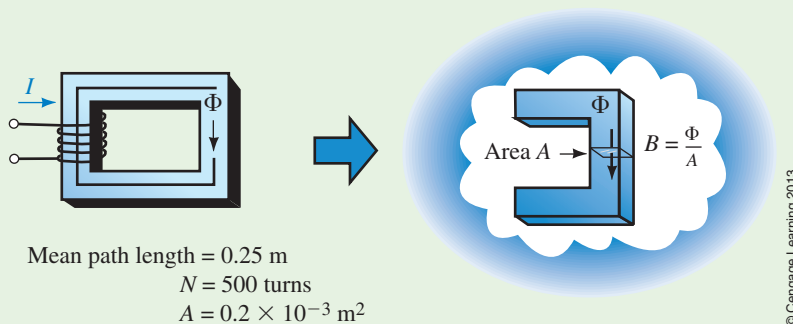

FIGURE 12–24
Magnetic circuit analysis is not as precise as electric circuit analysis because (1) the assumption of uniform flux density breaks down at sharp corners as you saw in Figure 12–4, and (2) the B - H curve is a mean curve and has considerable uncertainty as discussed later (Section 12–14).
If the core of Figure 12–24 is cast iron and $\Phi = 0.1 \times 10^{-3}$ Wb, what is the coil current?
2. From the B - H curve (cast iron), Figure 12–19, $H = 1550 \text{ At/m}$.